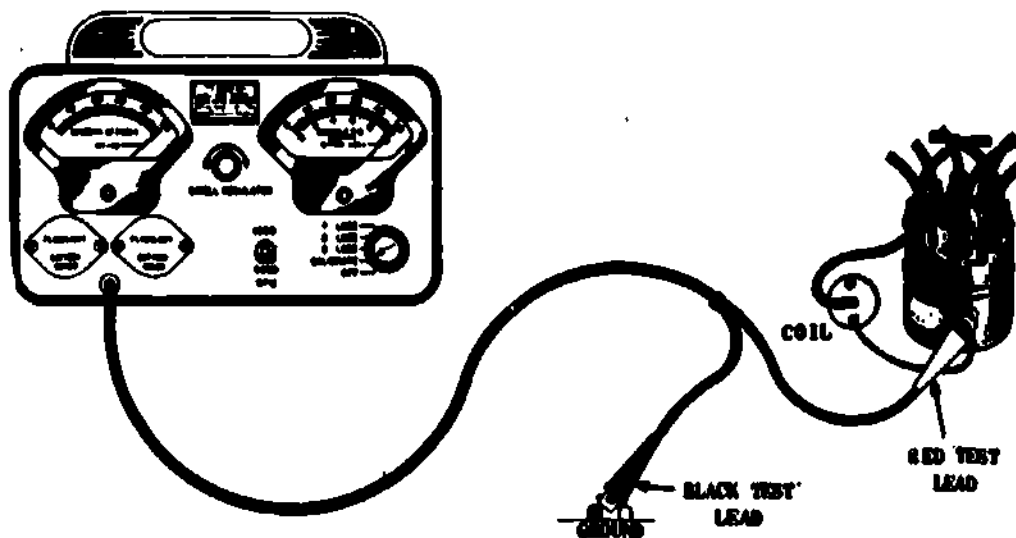

Fig 1-25. Distributor circuit resistance test.
(a) Distributor circuit resistance test (fig 1-25). Testers with an internal power source can be used to test the resistance of the primary circuit in the distributor. Resistance of the circuit is made prior to taking a dwell angle reading because excessive resistance will give an incorrect reading. **NOTE:** Resistance of a magneto ignition system cannot be checked with the dwell-tach tester.
- (b) Engine idle rpm test (fig 1-25). The engine rpm should be checked to insure that it is within manufacturer's specifications. High and low idle rpm can be tested with the dwell-tach tester when making governor and carburetor adjustments.